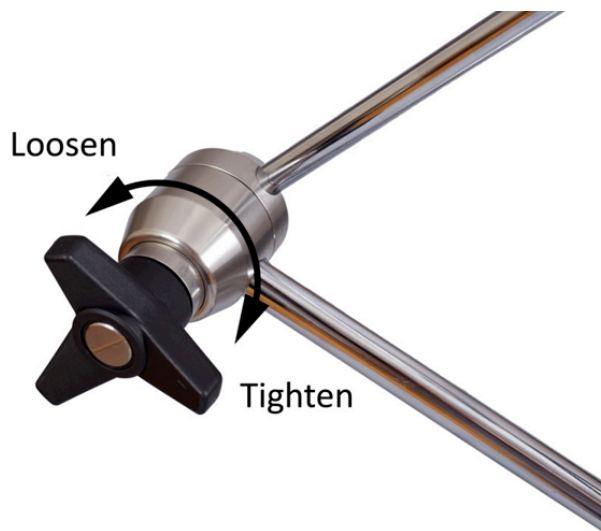

Fig. 48. Screw on holder arm.
10. To move a coil, loosen the screw on flexible arm (Fig. 48).